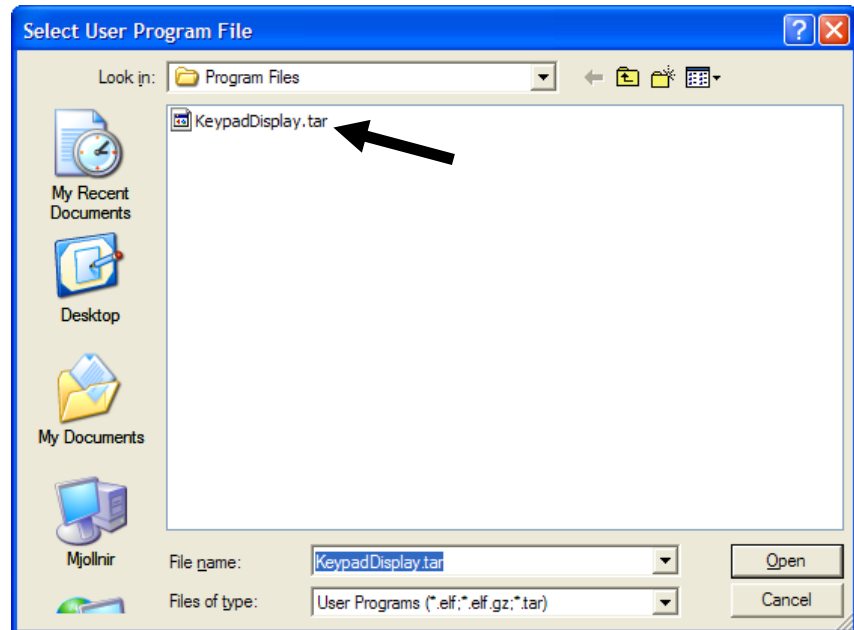

Figure 2-9. Select User Program File
5. Click **Browse** in the Download User Program File frame. The Select User Program File screen displays (see *Figure 2-9*).
6. Select the path and user program file to download from the CD-ROM. (Program files are typically located in the Program Files folder on the CD-ROM). As *Figure 2-9* shows, the screen lists all valid user program files with the **.tar** extension: